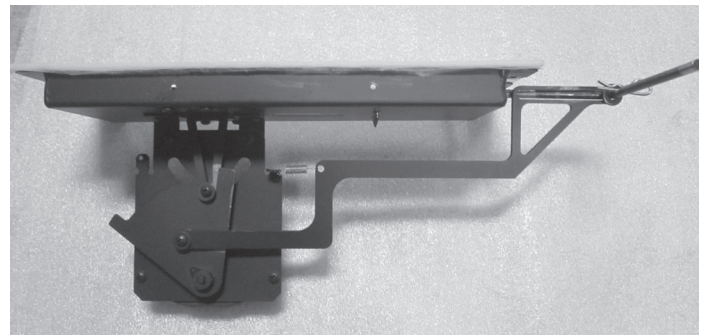

**Figure 4.19 Location of Bolts**
6. While supporting the air chamber, remove the two (2) 1/4-20 bolts at each end of it. Then pull it down and out the front. See Figures 4.19 & 4.20.